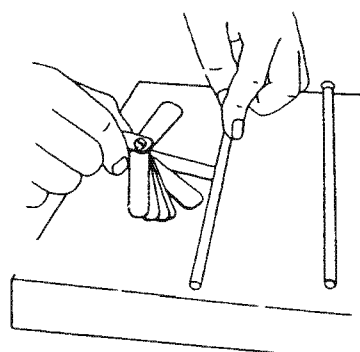

Figure 6-13
3. Use a feeler gauge to measure the gap (**Figure 6-13**). See *Push Rod* on page 6-4 for the service limit.